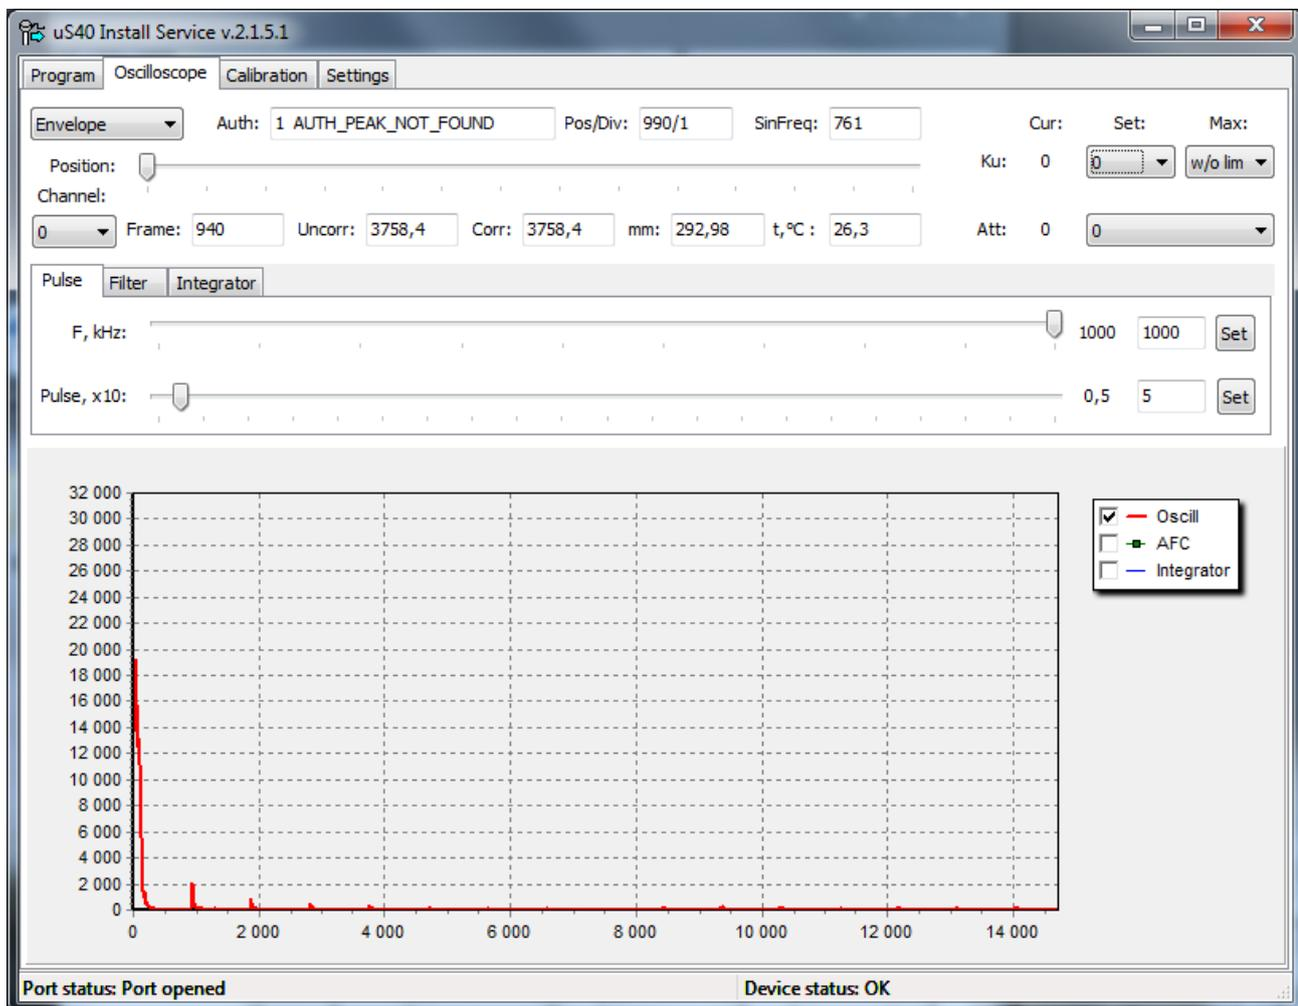
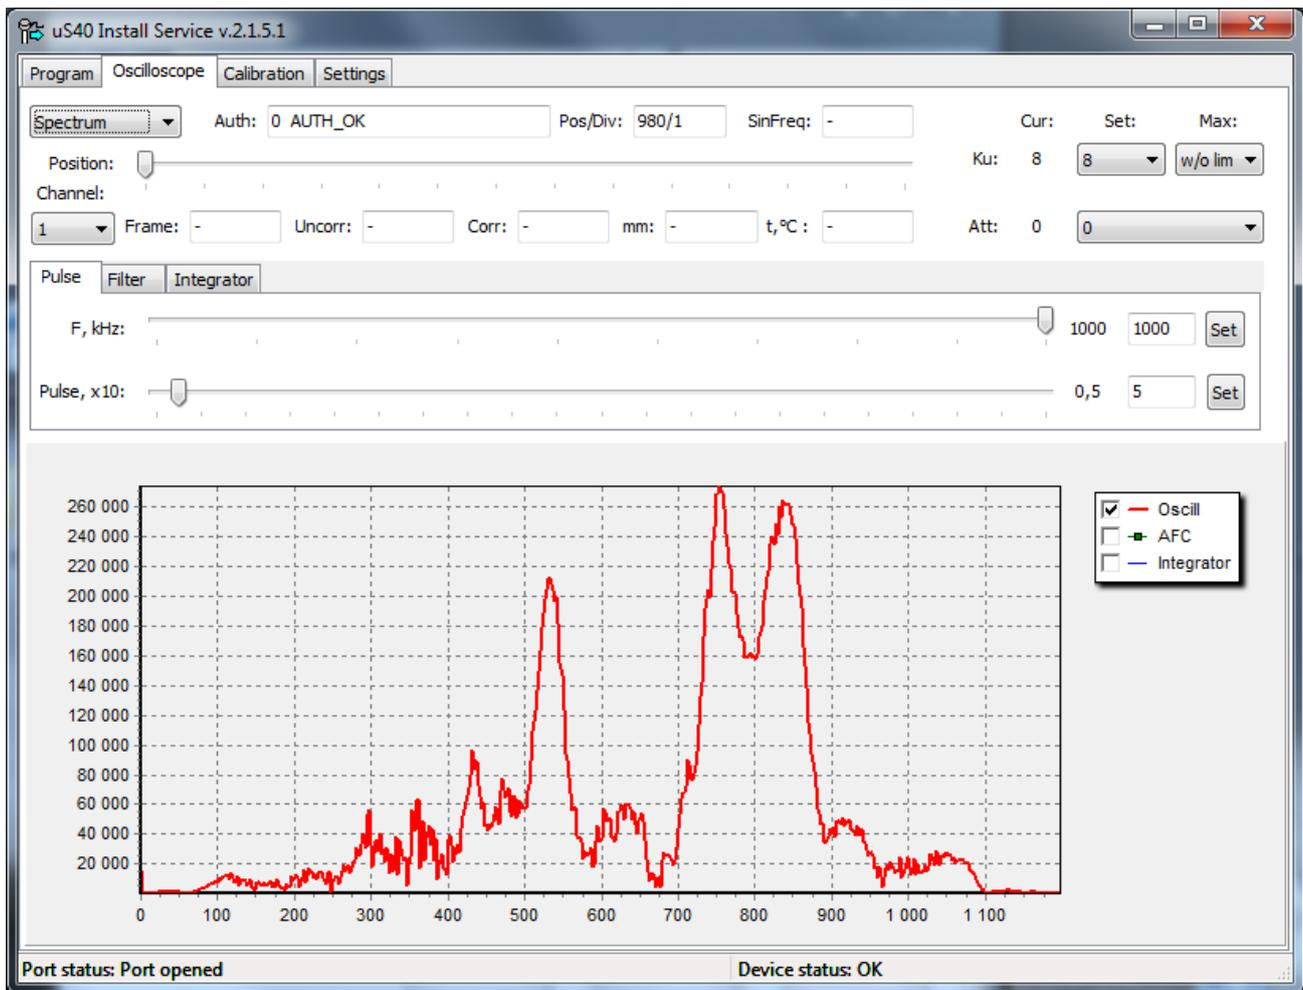

Fig. A.12
*Fig. A.19*
b) On the "Pulse" tab, in the "F, kHz" field, enter the value **1000**. Press the "Set" button. In the field "Imp, x10:" enter the value **5**. Press the "Set" button. Check the change of the entered values in the position to the left of the input field (Fig. A.12):
g) Go to the “Filter” tab (Fig. A.17), in the “F, kHz” field, select the closest value to the operating frequency in the drop-down menu. In the display mode of the oscillograph record, select "Envelope" (Fig. A.12). The parameter "Post-filtering" - select **5**; if the value in the "Uncorr" field is unstable, increase the post-filtering parameter.
- In the drop-down menu “Channel:” select channel 1 (Fig. A.19). In the drop-down menu for displaying the oscillograph record, select the "Envelope" mode (Fig. A.12).